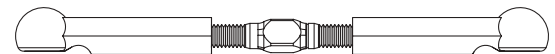

Figure 47B
- ❑ 1. Thread a plastic Rod End (4) onto each end of a 1.375" Titanium Turnbuckle (141). Tighten both Rod Ends equally until the Tierod is the same length as the assembled Tierod in Figure 47B. Make two of these assemblies.